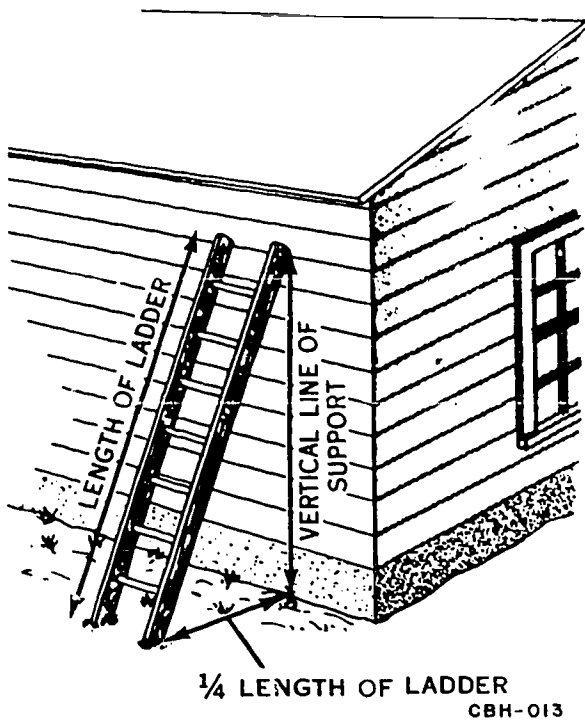
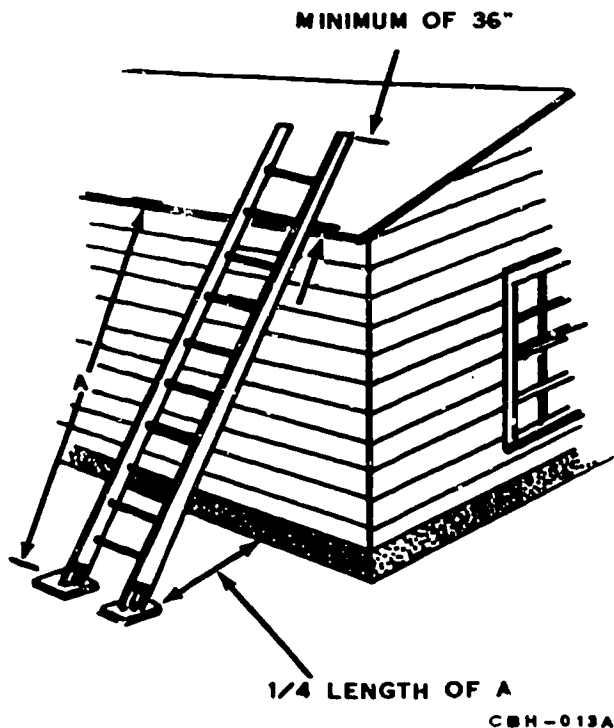

Figure 4-1. Placing a short ladder.
Figure 4-2. Placing a long ladder.
**Straight Ladder.** Erect a straight ladder by placing the base of the ladder (wide end) against the foundation of the structure. Raise the top and walk under the ladder toward the bottom end, grasping and raising the ladder rung by rung as you proceed. When the ladder is perpendicular, pull the bottom out from the building to a distance of one-quarter of its length, as shown in figure 4-1. If you must get on top of the building or on a scaffold, the ladder must extend at least 36 inches beyond that surface, as shown in figure 4-2.